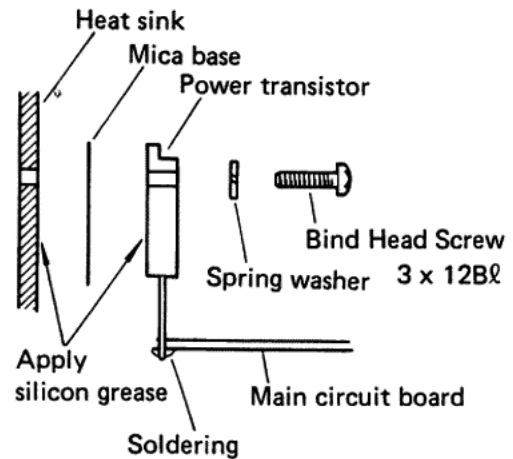

Fig. 13
- * When mounting the power transistors, install a mica base between the heat sink and transistors so that the heat sink will not touch the case of the power transistor. Apply silicon grease to both sides of the mica base so that heat coupling between power transistors and the heat sink will be efficient. (Fig. 13)
- Replace the drive transistors as shown in Fig. 13. Use the isolation bushing as shown in Fig. 14 when mounting the drive transistors.